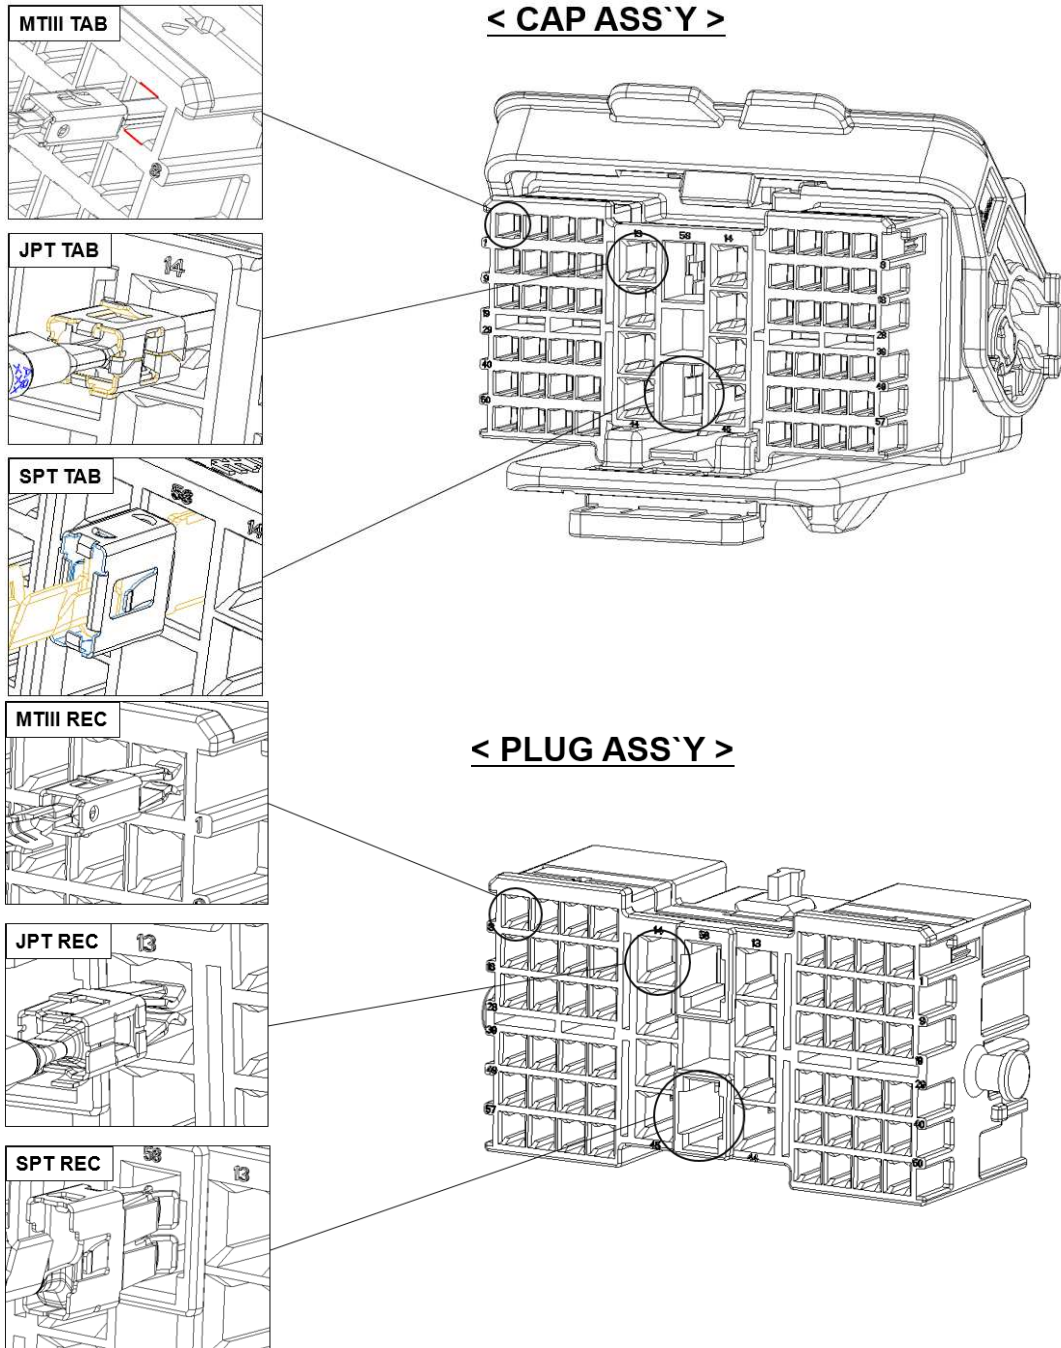

Fig. 11
- (2) Insert TML into the each cavity with proper TML direction (See Fig.11).